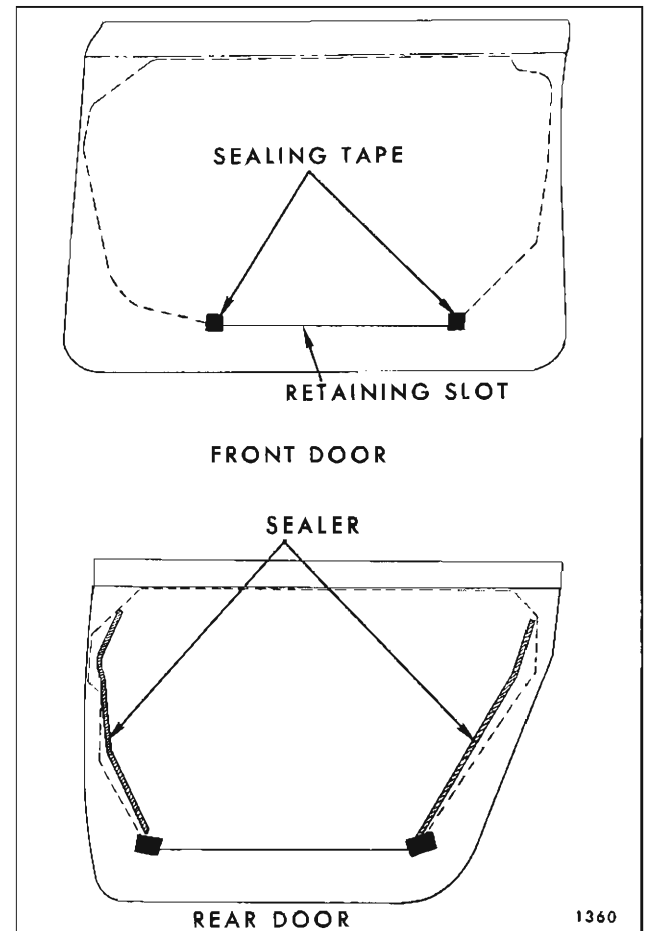

Fig. 2D6—Front and Rear Door Water Deflectors
5. Disengage lower edge of water deflector from retaining slot in door inner panel and remove water deflector (See Fig. 2D6).